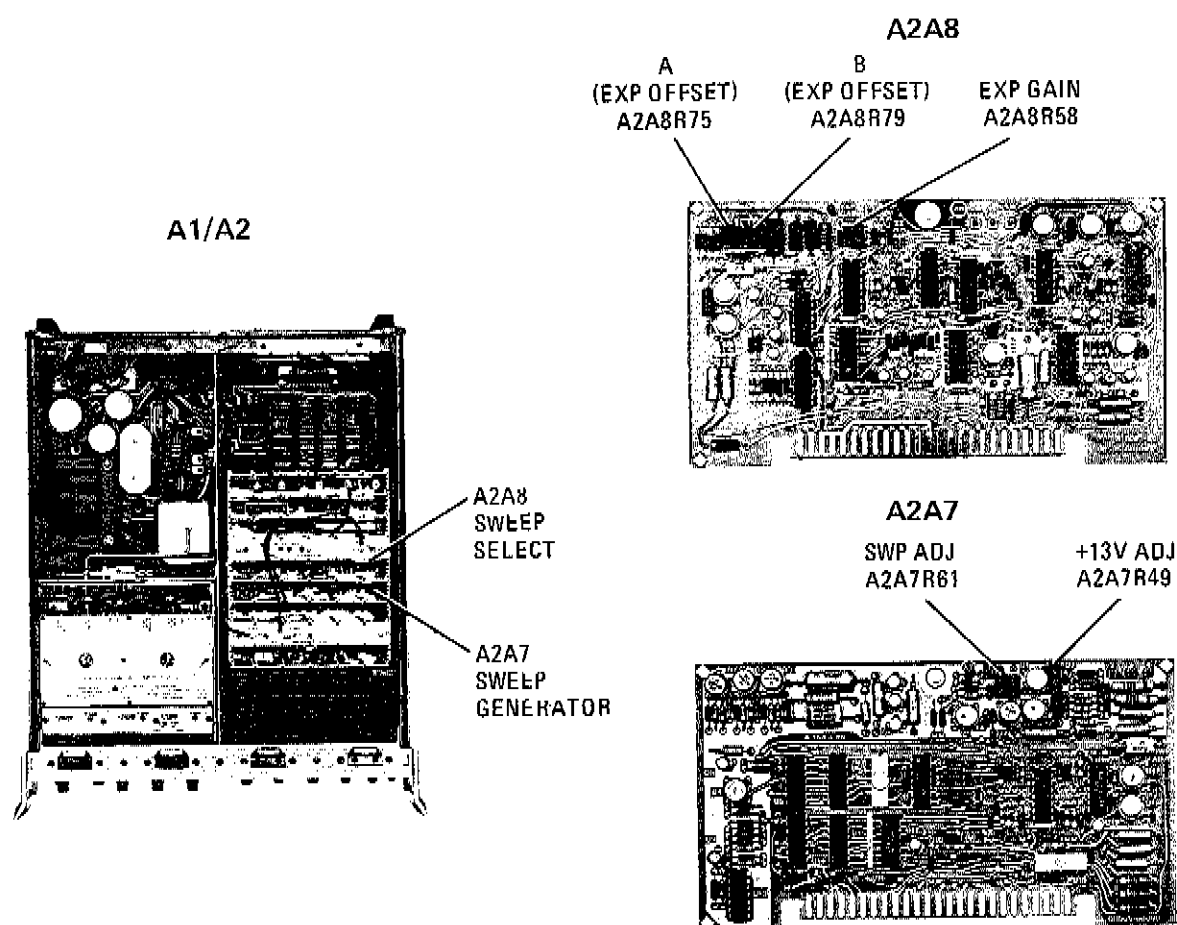

Figure A5-11. +13V Power Supply and Sweep Select Adjustment Locations
- b. Adjust A2A7R49 for +13.010 Vdc  $\pm 0.005$  Vdc (See Figure A5-11).
- a. Connect DVM to A2A4TP4 and indication should be +13.000 Vdc +0.005, -0.000 Vdc. (If indication is out of tolerance, adjust "+13 V ADJ" A2A7R49 in +13 Volt power supply (Figure A5-11) to obtain the correct voltage.)
- b. Connect DVM to LOG Test Point A2A8TP1. On A2A7 Sweep Generator board, connect A2A7TP3 to ground to select zero volts on VSW1 line into A8, pin 14. Adjust “EXP OFFSET A” control A2A8R75 for –1.000 Vdc  $\pm$  0.2 Vdc on DVM. Disconnect ground from A2A7TP3 (Figure A5-11).